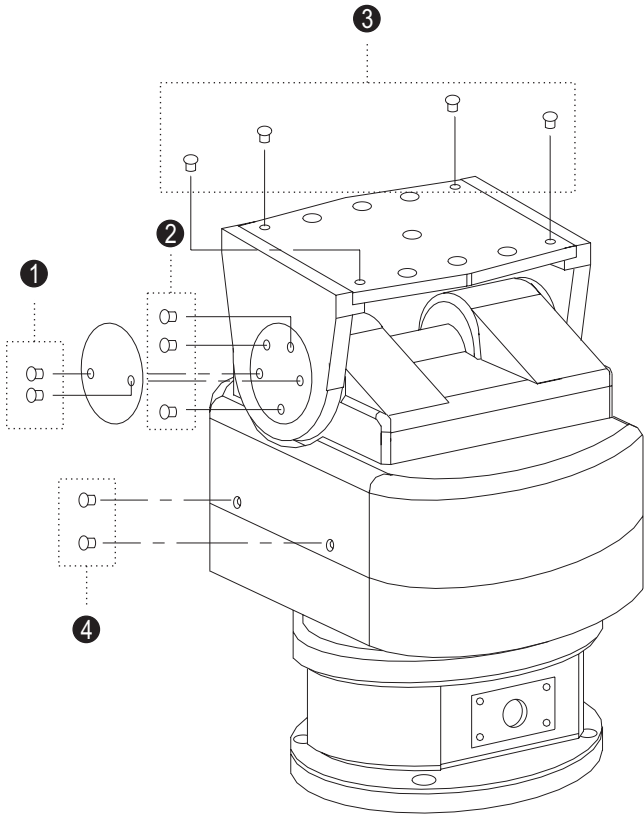

Figure 5
3. To disassemble the unit, take off the screws in sequential orders from 1~4 shown on Figure 5. To assemble, reverse the steps.